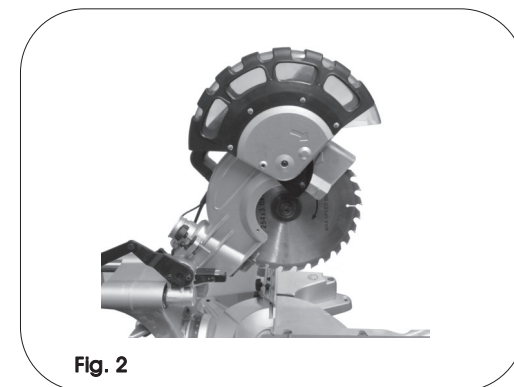

Fig. 2
- Once the pan head screw (C) is removed, swing the guard plate and lower blade guard upwards to allow access to the blade bolt as shown in Fig.2.